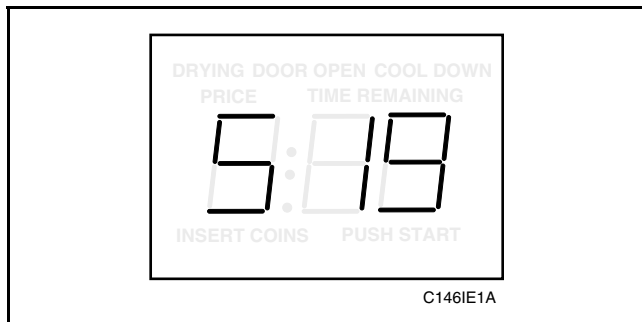

Figure 31
2. While pressing and holding the HIGH TEMP pad with one hand, press the MED TEMP pad with the other hand. Programmable option number 1, (Audio Signal “SIg”), will appear in the VFD, *Figure 31*.